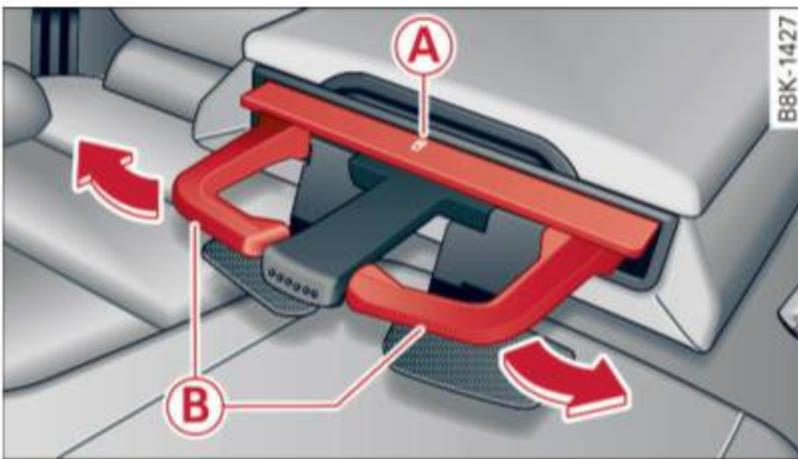

Fig. 70 Rear armrest: rear cupholder
- ▶ To open the cupholder, press on the symbol  ⇒ fig. 70.